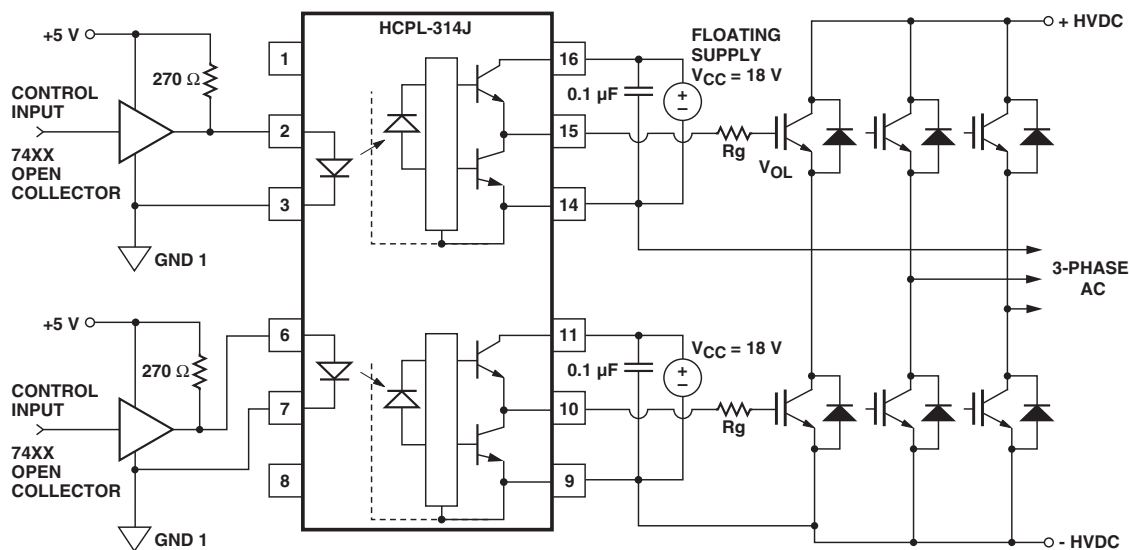
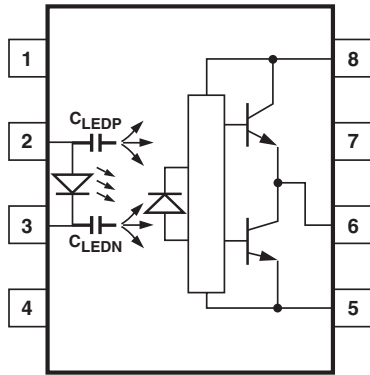
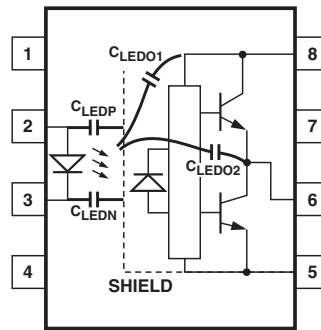
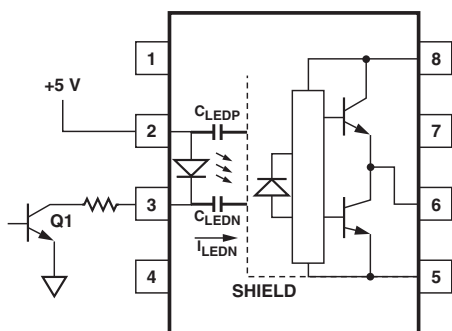

Figure 19. Recommended LED Drive and Application Circuit for HCPL-314J.
Figure 21. Optocoupler Input to Output Capacitance Model for Unshielded Optocouplers.
Figure 22. Optocoupler Input to Output Capacitance Model for Shielded Optocouplers.
Figure 24. Not Recommended Open Collector Drive Circuit.
To keep the IGBT firmly off, the HCPL-314J has a very low maximum V_{OL} specification of 1.0 V. Minimizing R_g and the lead inductance from the HCPL-314J to the IGBT gate and emitter (possibly by mounting the HCPL-314J on a small PC board directly above the IGBT) can eliminate the need for negative IGBT gate drive in many applications as shown in Figure 19. Care should be taken with such a PC board design to avoid routing the IGBT collector or emitter traces close to the HCPL-314J input as this can result in unwanted coupling of transient signals into
the input of HCPL-314J and degrade performance. (If the IGBT drain must be routed near the HCPL-314J input, then the LED should be reverse biased when in the off state, to prevent the transient signals coupled from the IGBT drain from turning on the HCPL-314J.) An external clamp diode may be connected between pins 14 & 15 and pins 9 & 10 (as shown in Figure 19) for the protection of HCPL-314J in the case of IGBTs switching inductive load.
Step 1: Calculate Rg minimum from the IOL peak specification. The IGBT and Rg in Figure 24 can be analyzed as a simple RC circuit with a voltage supplied by the HCPL-314J.
where $K_{ICC} \cdot Q_g \cdot f$ is the increase in ICC due to switching and KICC is a constant of 0.001 mA/(nC*kHz). For the circuit in Figure 19 with IF (worst case) = 10 mA, Rg = 32 Ω, Max Duty Cycle = 80%, Qg = 100 nC, f = 20 kHz and TAMAX = 85°C:
Without a detector shield, the dominant cause of optocoupler CMR failure is capacitive coupling from the input side of the optocoupler, through the package, to the detector IC as shown in Figure 21. The HCPL-314J improves CMR performance by using a detector IC with an optically transparent Faraday shield, which diverts the capacitively coupled current away from the sensitive IC circuitry. However, this shield does not eliminate the capacitive coupling between the LED and optocoupler pins 5-8 as shown in Figure 22. This capacitive coupling causes perturbations in the LED current during common mode transients and becomes the major source of CMR failures for a shielded optocoupler. The main design objective of a high CMR LED drive circuit becomes keeping the LED in the proper state (on or off) during common mode transients. For example, the recommended application circuit (Figure 19), can achieve 10 kV/μs CMR while minimizing component complexity.
The open collector drive circuit, shown in Figure 24, can not keep the LED off during a $+dV_{CM}/dt$ transient, since all the current flowing through C_{LEDN} must be supplied by the LED, and it is not recommended for applications requiring ultra high CMR₁ performance. The alternative drive circuit which like the recommended application circuit (Figure 19), does achieve ultra high CMR performance by shunting the LED in the off state.